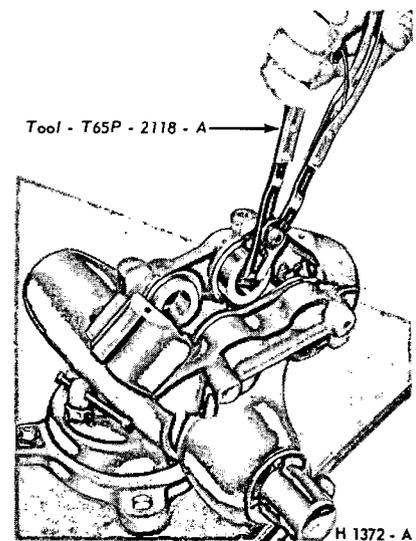

FIG. 34—Removing or Installing Pistons
7. Clamp the caliper in a vise and secure it by the mounting flanges on the inboard housing (Fig. 34).
8. Remove the four pistons from the cylinder bores with the special tool shown in Fig. 34. To prevent cocking with consequent damage to the piston or bore, rotate the piston with the tool while pulling it outward at the same time. Be careful to avoid scratching or damaging the outside diameter surface or dust boot retaining groove of the piston. Such damage causes poor sealing.
piston seal and the installation of the seal. If the piston still will not go in with bore in good condition and the piston seal properly installed, use the tool shown in Fig. 34. Rotate the piston with the tool while pushing it inward at the same time.